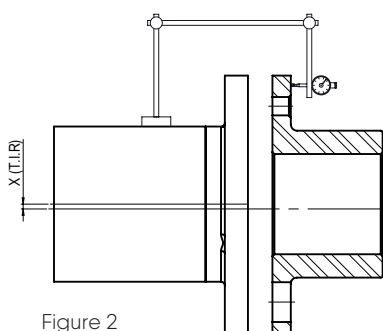

Figure 2
Alignment is measured as shown on the figure 2 (Angular alignment) & 3 (Axial alignment).
- 3.3.2. Mount a dial indicator on the floating shaft (spacer) and indicate the face of hub flange (See figure 2)